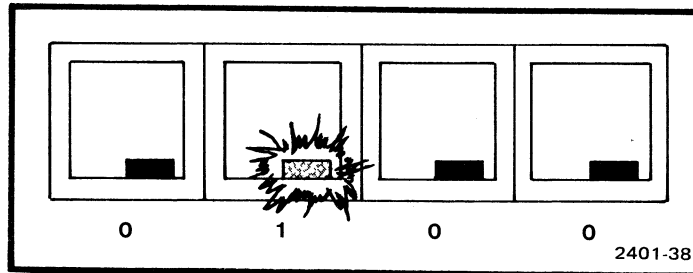

Figure F-8. Function key lights during fourth part of test.
6. After the "Test complete" (or error message), press any key on the keyboard; this advances the 4025 to part four of the test. The lighted function keys will display the binary numeral for the number four (0100), as shown in Figure F-8. The message "ROM checksums" appears, followed by some numbers. These numbers are "checksums" by which service personnel can verify that the correct instructions are installed in the 4025's internal program memory.